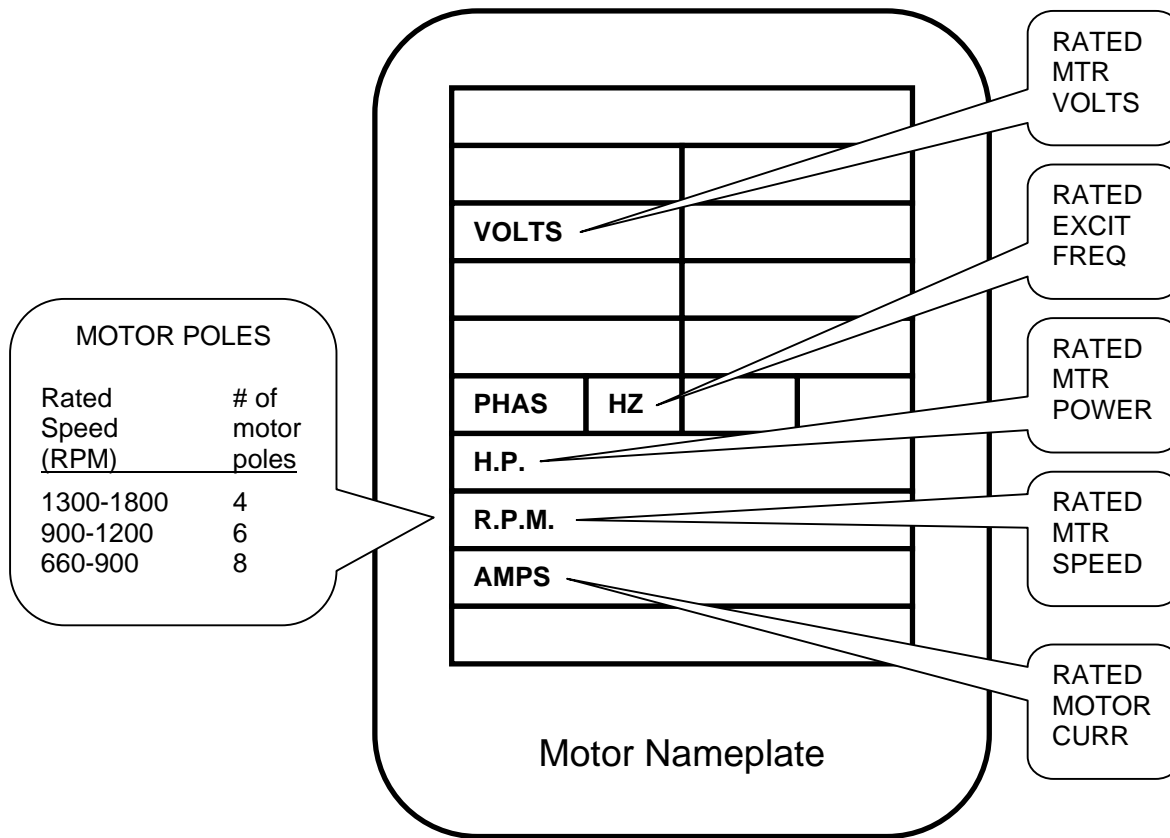

Figure 26: Motor Parameters Entered from Motor Nameplate
The default motor selections for the motor id will place a zero values in the motor nameplate parameters (see Figure 26). This selection will also load nominal values for the other motor parameters listed in Table 15
- Now, enter the motor nameplate data into the needed motor nameplate parameters (see Figure 26)